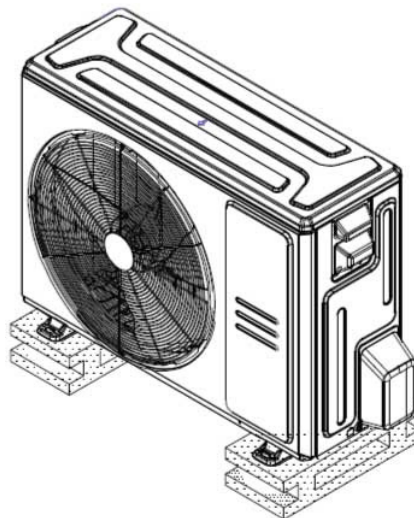

Fig. 2 —Outdoor Unit
- Fig. 2 is only a sketch. The actual model may differ slightly.